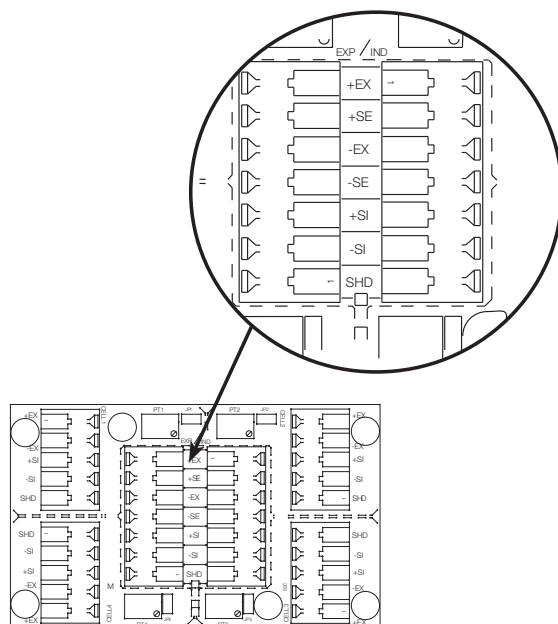

Figure 2-8. Expansion Port Location
5. Use the expansion port on the main board to connect multiple junction boxes in series to accommodate applications that have more than four load cells. Figure 2-8 illustrates the expansion port wiring location.